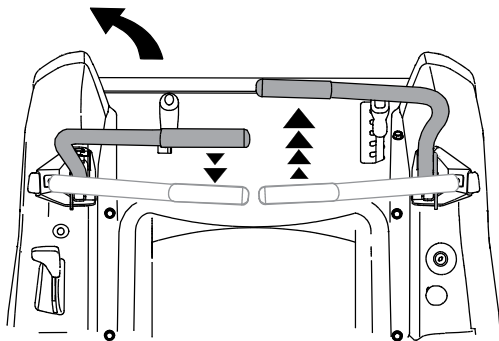

Figure 5-4
- To turn to the left, move the left drive control lever rearward of the right lever. See Figure 5-4.